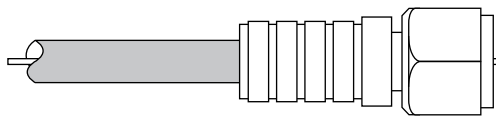

Figure 4-14. Weatherproof F-type connector
4. If the cable already has an F-type connector on it, go to step 5. Otherwise, install an F-type connector (see figure 4-14) onto the end of the cable.